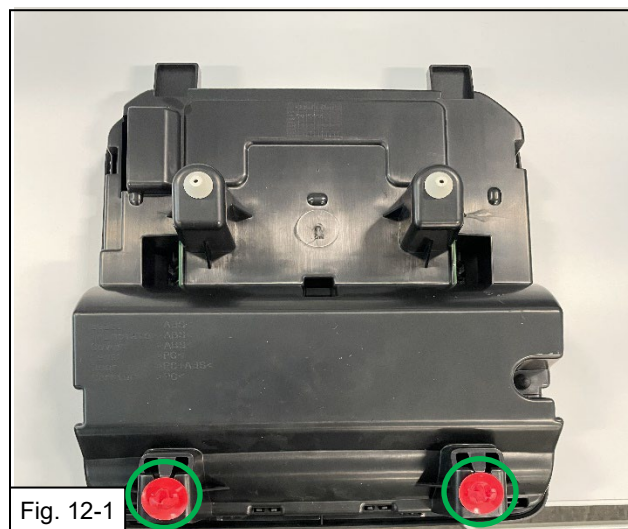

Fig. 12-1
- (b) Check all console clips are in good condition and are present on the console. If any are still installed in the roof of the vehicle and have separated from the console, a panel tool with a forked end can be used to pry them out, then reinstall in the console. (Fig. 12-1)